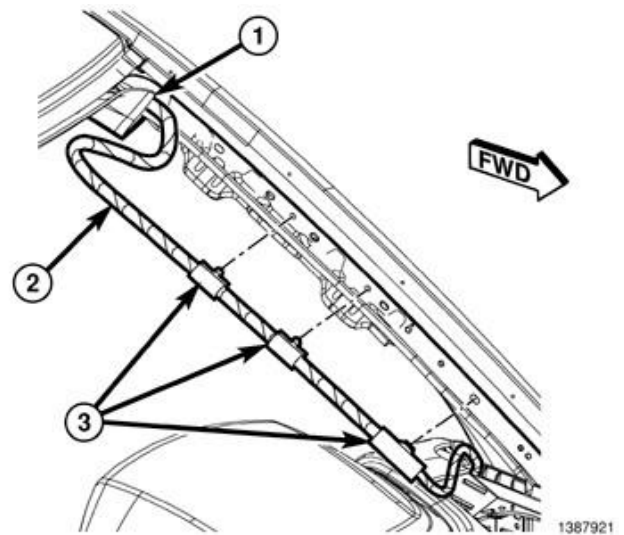

Figure 35 – Headliner Harness
- 25. As necessary, release the headliner wiring harness clips (3) from the A-pillar to allow enough wiring harness slack for lowering the headliner (Figure 35).
42. Reattach any headliner wiring harness clips (3) removed from the A-pillar to allow slack while lowering headliner (Figure 35).